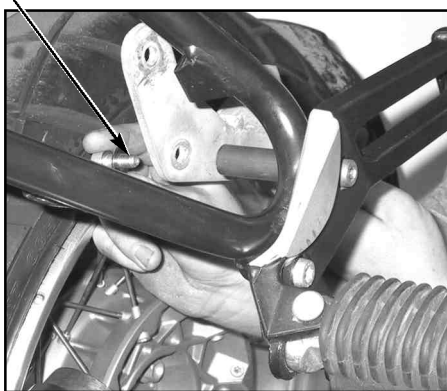

Figure 5
3. Install hanger bracket to standoff using the M8 x 25 screw and flat washer removed in **Preparation Step 6.** **Do not fully tighten. Figure 5.**